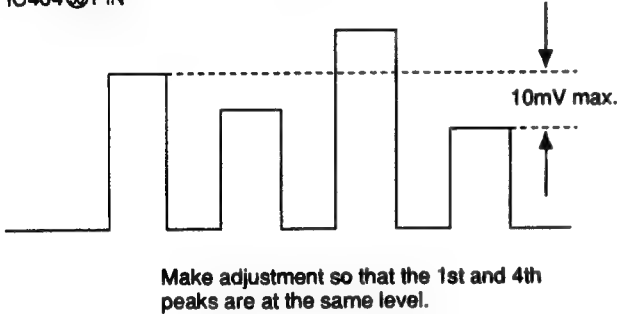

Fig. 5-18
2. Connect the probe of an oscilloscope to IC404 ③ PIN or TP402.
4. Adjust **CHROMA NTSC 358 NOR** so that the peaks of waveforms will be flush with each other as shown in Fig. 5-18.
- 2) Adjust **CHROMA NTSC 358 ACC OFF** in the same way as 10-4. shown above. (Fig.5-18)